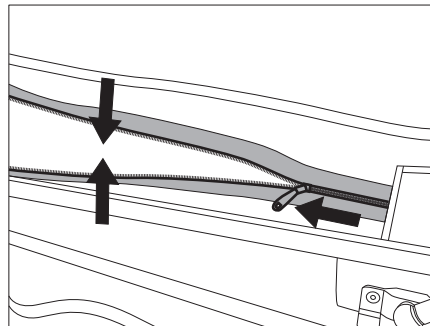

Fig. 23 Relieving the zip
- ▷ When closing the zip, pull down the pop-up roof so that the zip is not under tension (Fig. 23).